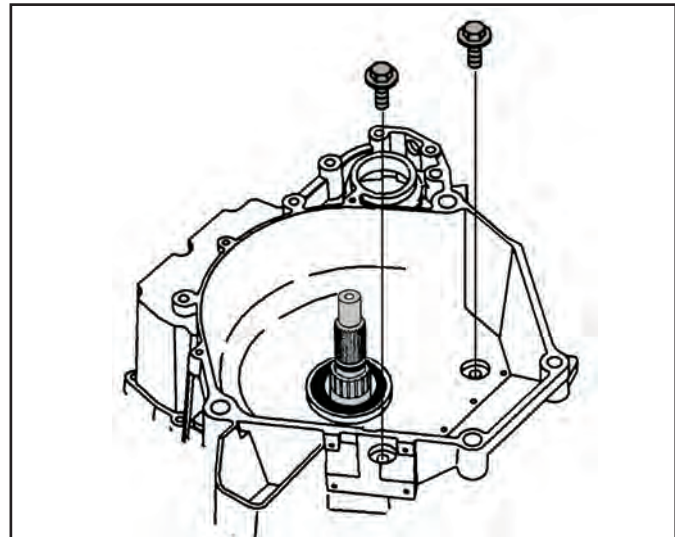

Figure 224
63. Install converter housing to case bolts and torque them down to 25 N•m (18 ft. lbs) as shown in Figure 224.